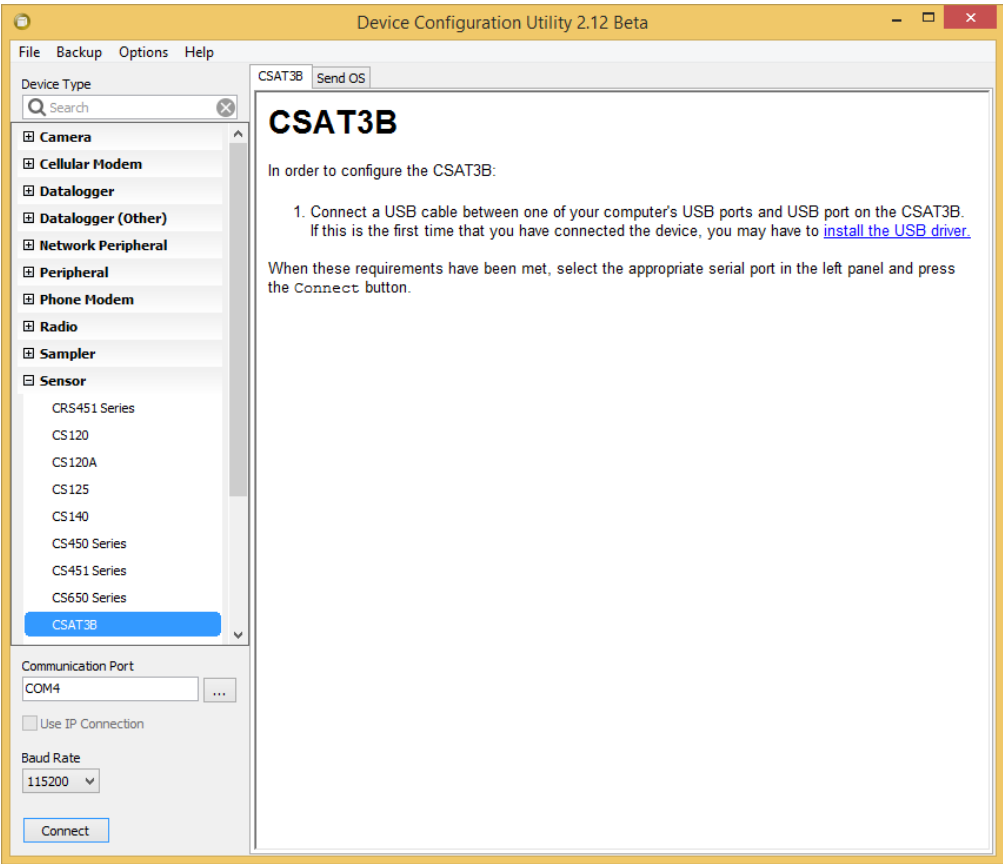

FIGURE 7-1. Connecting CSAT3B using Device Configuration Utility
4. From the left side of the main screen, select the CSAT3B among the list of sensors. Select the appropriate communication port and baud rate (refer to the left side of FIGURE 7-1).
5. If this is the first time the computer has connected to a CSAT3B and depending on the computer settings, the USB driver may need to be manually installed. To do this, make sure the computer is connected to the internet and click on the **install the USB driver** link as shown in FIGURE 7-1).